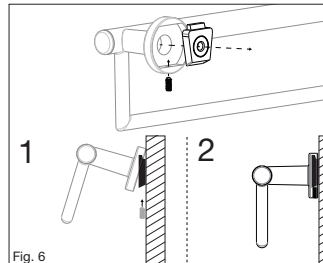

Fig. 6
10. Attach Assist Bar onto mounting bracket and secure with the provided 10-24 X 1/2" Socket Set Screw. Repeat for opposing side. (Fig. 6)